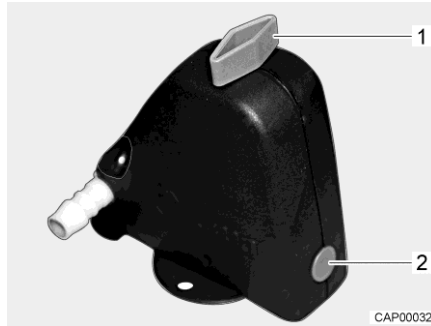
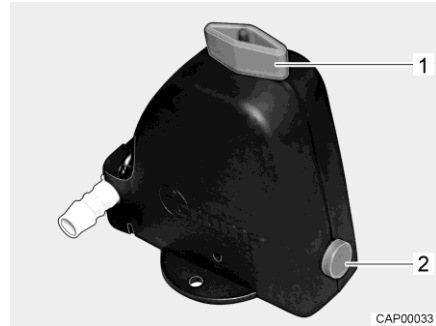

Fig. 97 Safety/drainage valve closed
Fig. 98 Safety/drainage valve open
- Open the safety/drainage valve (Fig. 97). To do this, turn the knob (Fig. 97,1) parallel to the safety/drainage valve. The push button (Fig. 97,2) jumps out. The open safety/drainage valve is shown in Fig. 98.